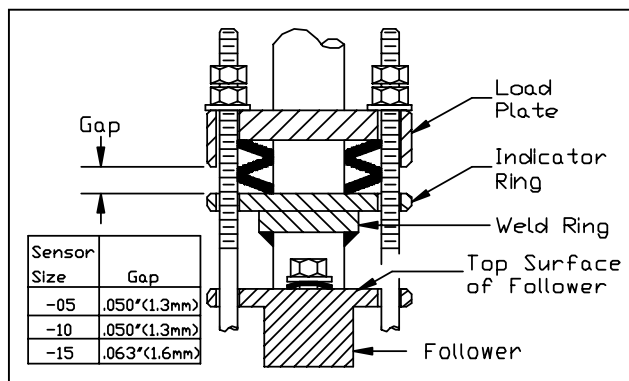

Figure 6. Proper Spring Compression
- Place the three lock washers and the three load nuts on the studs and tighten. Tighten the load nuts until the load plate is 0.050" (1.3mm) from the indicator ring for -05 and -10 sensors. For -15 sensors, the load plate should be 0.063" (1.6mm) from the indicator ring (Figure 6). For -05 sensors, this can be done by tightening all the load nuts until the load plate just touches the indicator ring and then backing off all the load nuts one complete turn. For -10 and -15 sensors, this can be done by tightening all the load nuts until the load plate just touches the indicator ring and then backing off all the load nuts 3/4 of a turn. The load springs are now properly set.
Note: The weld on the weld ring (Figure 6) should not contact the top surface of the follower. If the weld on the weld ring comes into contact with the follower, the sensor will not be properly bottomed in the pipe. If this occurs, consult the factory before proceeding.